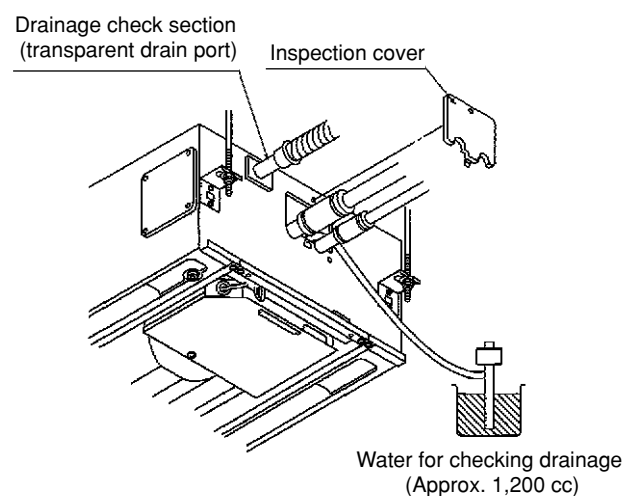

Fig. 3-47
- (4) When the check of drainage is complete, open the check pin (CHK) and remount the tube cover. (Fig. 3-47)